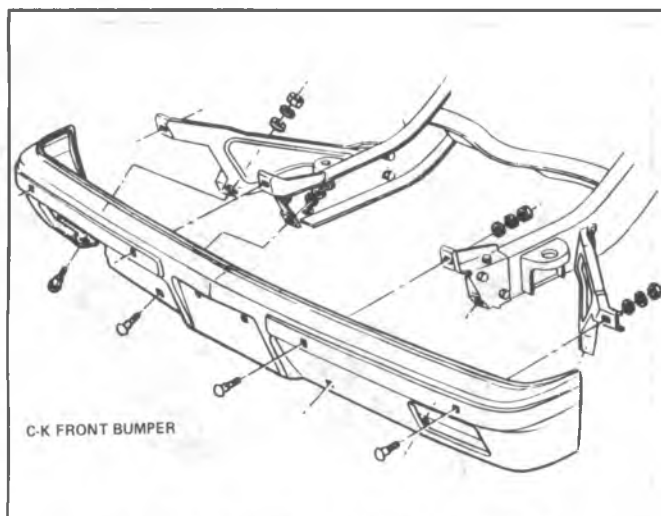

Fig. 2B-1--Front Bumper-C, K and P Models
4. If equipped with bumper guards (Fig. 2B-2) remove remaining nuts and bolts.